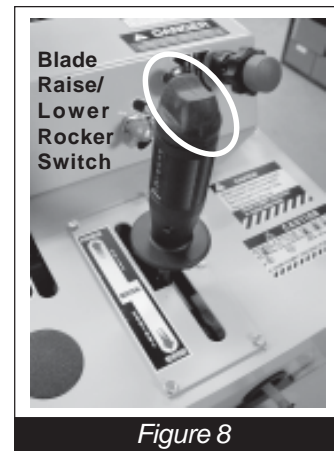

Figure 8
- Lower the blade by depressing the blade lift/lower switch (*Figure 8*) until it just touches the slab surface. When blade touches, set the depth indicator to zero.
- Raise the blade completely out of the cut by depressing the blade lift/lower switch (*Figure 8*) DO NOT attempt to raise the blade with the depth control lock.